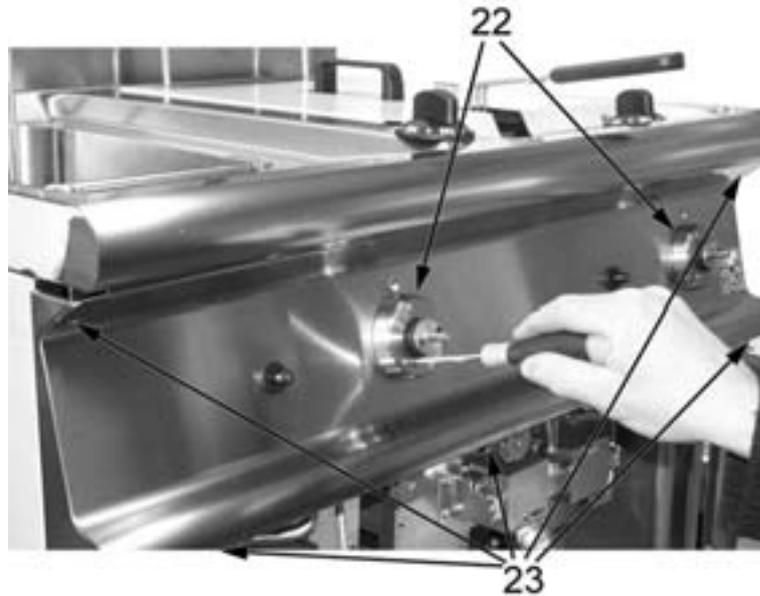

Fig. 8
- loosen all screws on the guide collars (item 22 in Fig. 8);
- remove the screws shown on item 23 from the control panel;